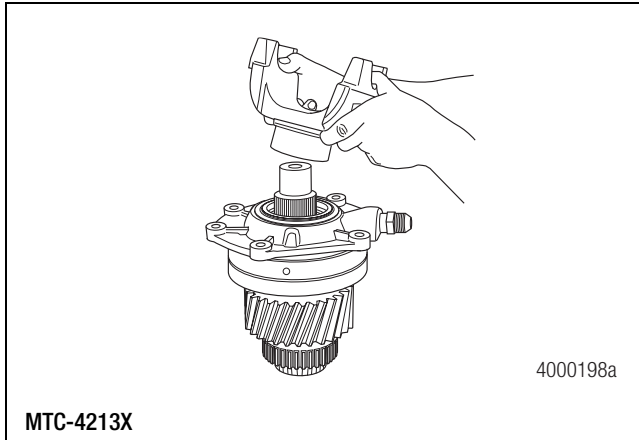

Figure 4.24
3. Use a yoke puller to remove the front input yoke. Figure 4.24.